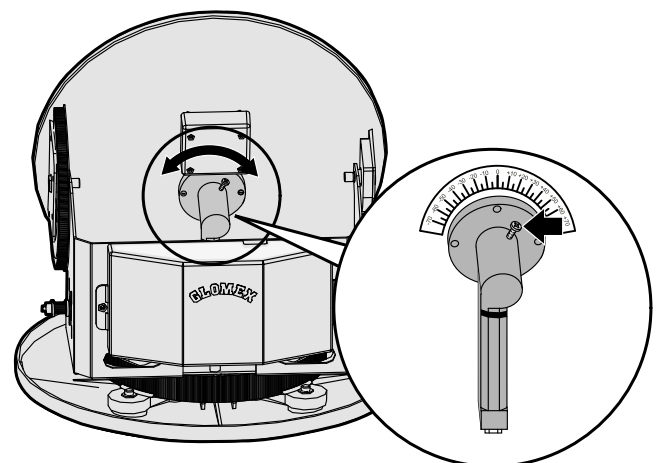

Fig. 25
- loosen the screw fastening the LNB to the dish (see **Fig. 25**) and manually move the dish, searching for the parameter of signal quality of